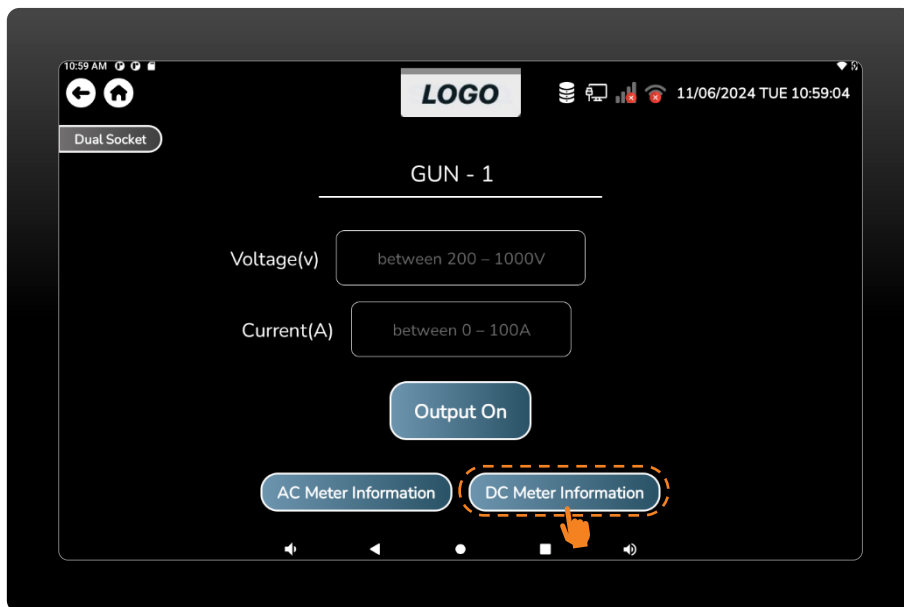

Figure 26 Press the DC Meter Information button.
- Pressing the AC Meter Information button will open the DC information screen. (Figure 26)